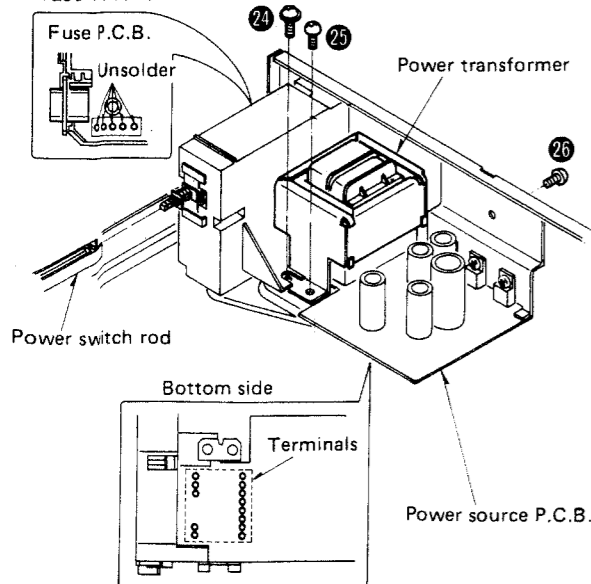

Fig. 13
4. Remove the 3 setscrews [Fig. 13: 24 ~ 26] of the power transformer and take the power transformer block out of the chassis.